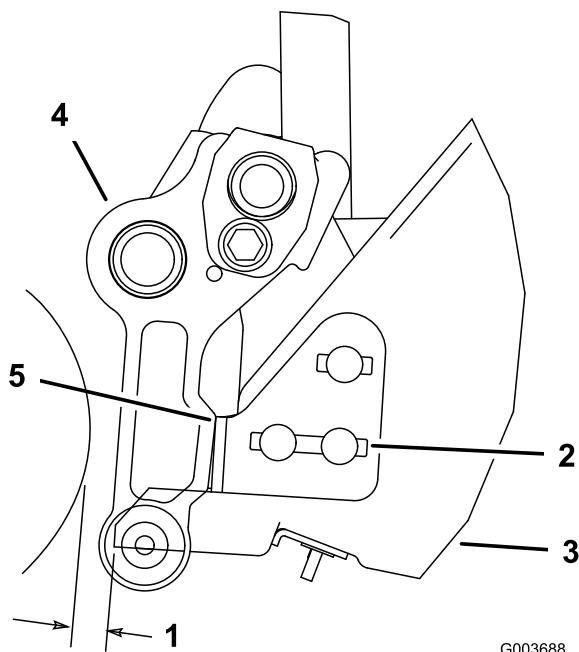

Figure 8
1. On each side of the basket, loosen the carriage bolt nuts securing the basket-stop brackets to the basket (Figure 8).
2. Position the basket so it is parallel to the cutting unit with a minimum clearance of 6 mm (0.250 inches) between the lip of the basket and the reel (Figure 8).